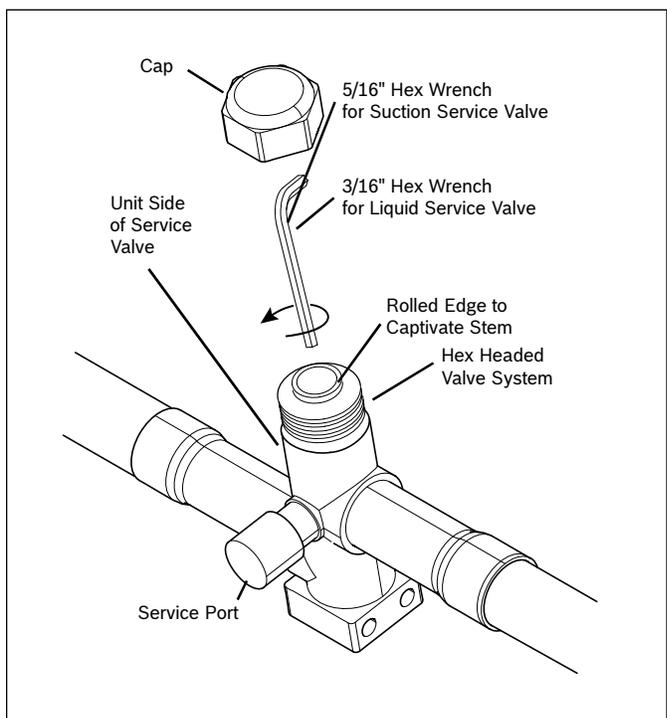

Figure 27
1. Remove Service Valve Cap (Figure 27).
2. Fully insert hex wrench into the stem and back out counterclockwise until valve stem just touches the rolled edge (approximately five (5) turns.)